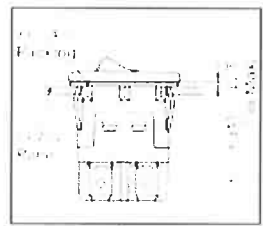

Fig.2.
- スイッチをパネルへ取付けるとき、セット時でパッキン厚が1ミリ以下になるように取付けてください。(Fig.2.参照)
- Mount the switch on the panel so tightly that there is no gap between the packing and the panel. The thickness of the packing shall be less than 1 mm as in Fig. 2.